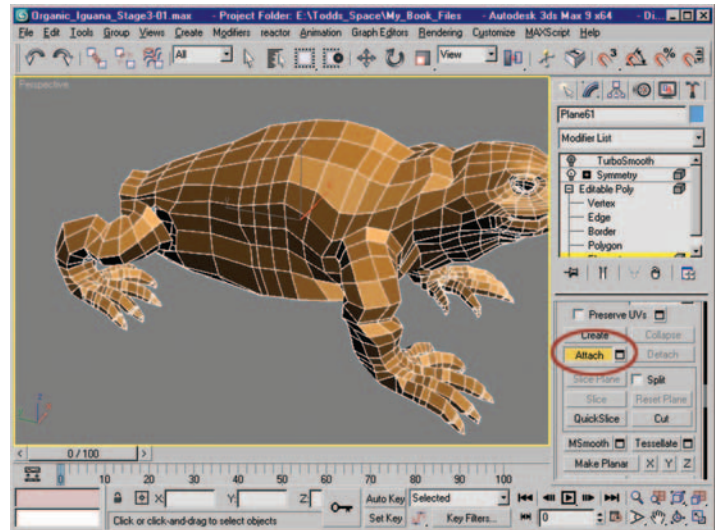

Figure 9.83 Iguana mesh with leg attached.
46. Select the iguana's body. In the Edit Geometry rollout click Attach, then click on the leg mesh in the viewport (Figure 9.83).